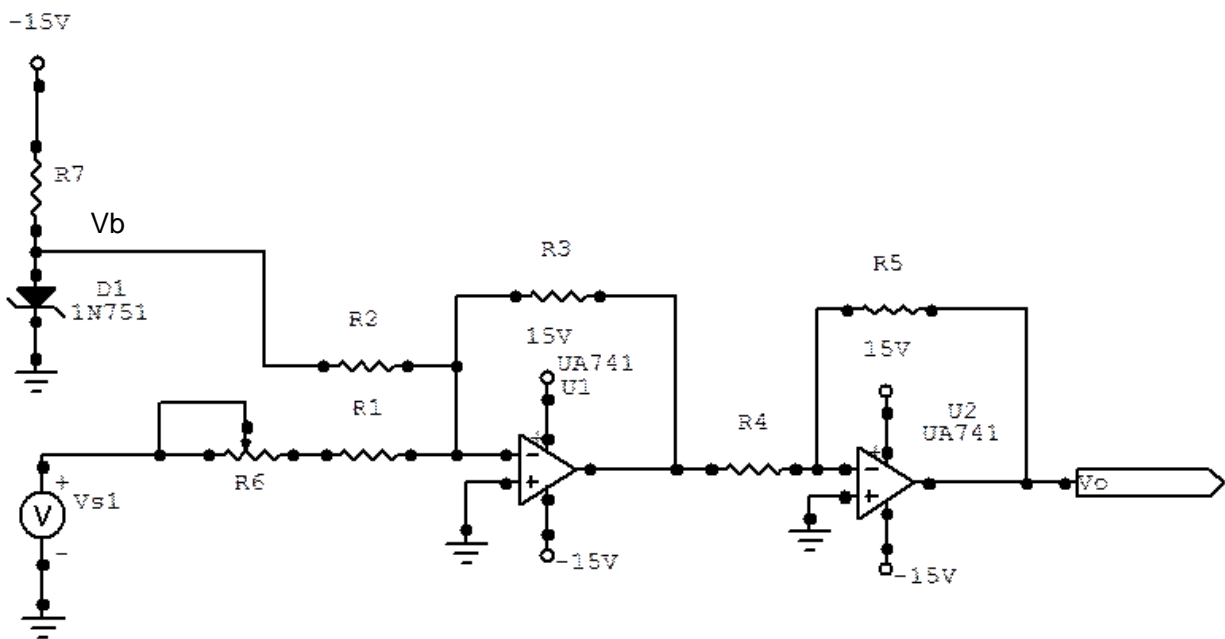

Figure 8. Scaling Amplifier Circuit Schematic. Transducer Source is Vs1.
Figure 8 shows a scaling circuit using two OP AMPs. The OP AMP U1 is a summing amplifier
A transducer has an output span of 0 to 7.5 Vdc over its useful range. The device must be connected to a PCI-6221 analog channel. Select the correct range and design a scaling circuit based on Figure 8 to achieve maximum resolution of this signal. Determine the value of V_{LSB} and the quantization error.
- 6.) Evaluate the sensor output and design a scalar circuit that can interface the sensor output to the analog input channel with maximum resolution. Compute the values of all resistors from Figure 8 to produce a scalar circuit that covers a complete DAQ analog input range given the sensor voltage divider output. Document the circuit design with calculations showing resistor value computations and a schematic.
- 8.) Construct the LED array and size the resistors R1-R4. Compute the value of R1 using the maximum LED current, I_{LEDmax} from the device datasheet. If a datasheet is not available, use a typical value. Equation (10) gives the formula for finding this value.